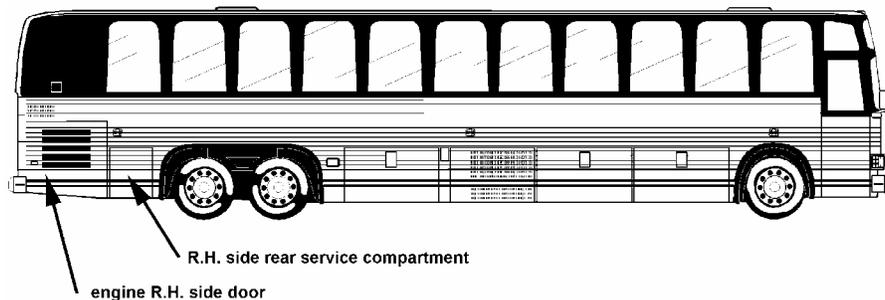

FIGURE 8 : ACCES DOORS AND COMPARTMENTS
1. Open engine R.H. side door (figure 8).
4. Set the battery master switch to the "OFF" position. The battery master switch is located in the main power compartment (figure 8).